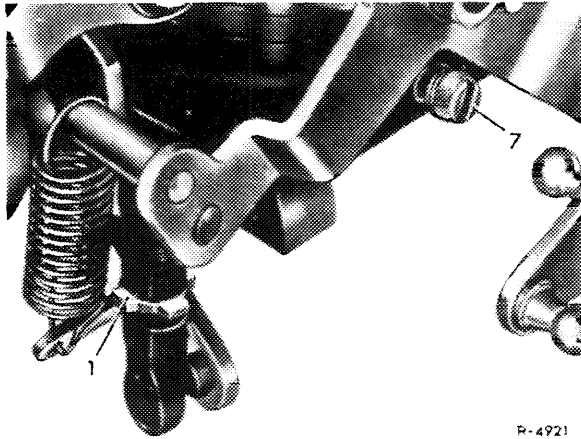

Fig. 07-4/2
5 Check whether both the actuating levers (8) contact the idle speed stop (4). On vehicles with vacuum control, back off adjustment screw (6) (Fig. 07-4/1).
7 With the idle speed adjustment screws (1), adjust to a speed of 800–900 rpm. Synchronize carburetor using a synchro-tester (Fig. 07-4/2 and 3).